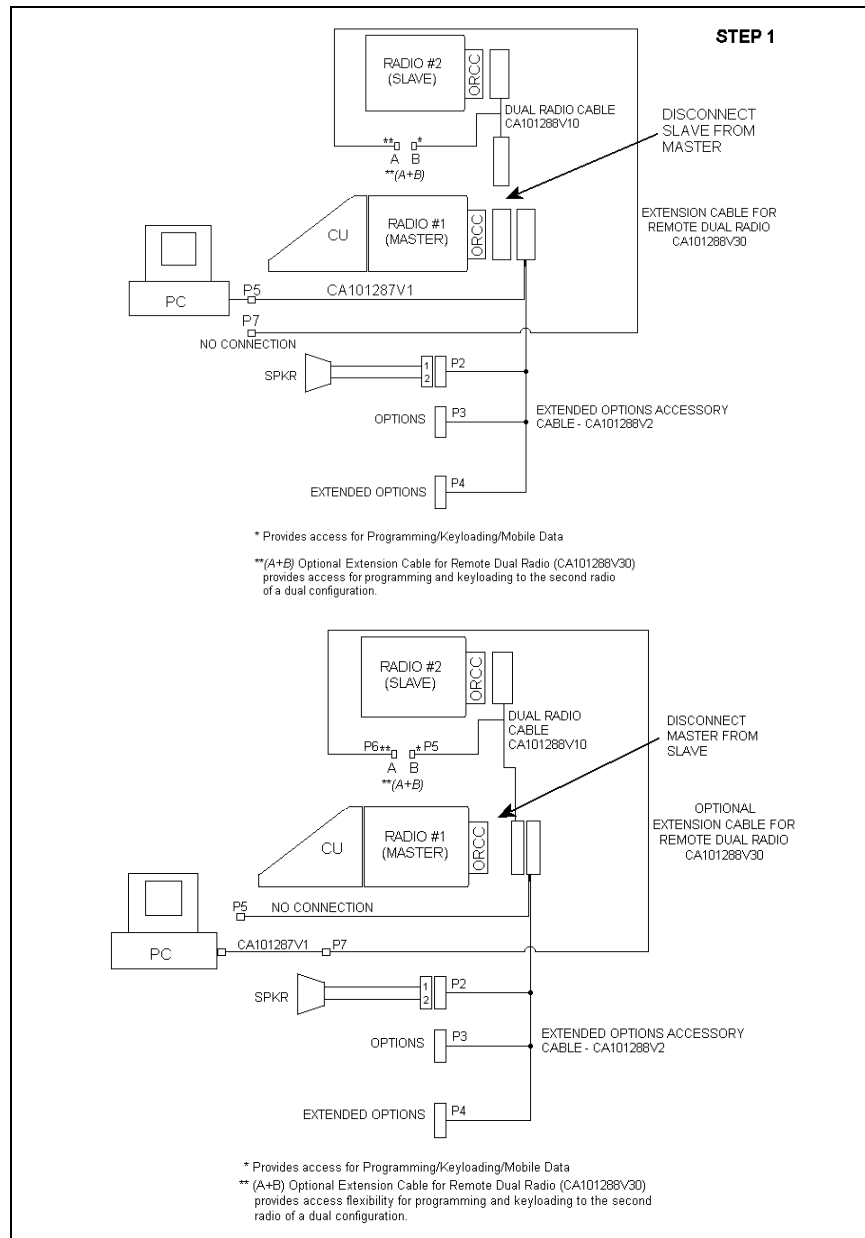

Figure 33 – Dual Radio Configuration – Front/Remote Mount – PC Programming Procedure
- Step 1** Configure the M7100^{IP} Master Radio per the ProGrammar setup shown in Figure 33, Step 1, with the Slave Radio disconnected. Program the Master Radio with the control configurations per the Pre-Installation Programming Procedure with ProGrammar – Dual Radio Units and adjust as necessary for the desired application.
- Step 2** Now configure the Slave Radio with ProGrammar as shown in Figure 33, Step 2. The Slave Radio should now be disconnected with the Slave Radio connected as shown. Program the Slave Radio with the configuration per the Pre-
- Step 2** Now configure the Slave Radio with ProGammer as shown in Figure 33, Step 2. The Slave Radio should now be disconnected with the Slave Radio connected as shown. Program the Slave Radio with the configuration per the Pre-